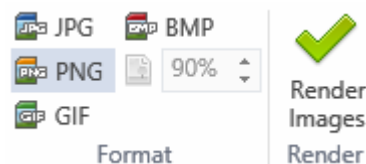

Figure 17.
4. Select a file type for storing still images (JPG or PNG are recommended) (Fig. 17).